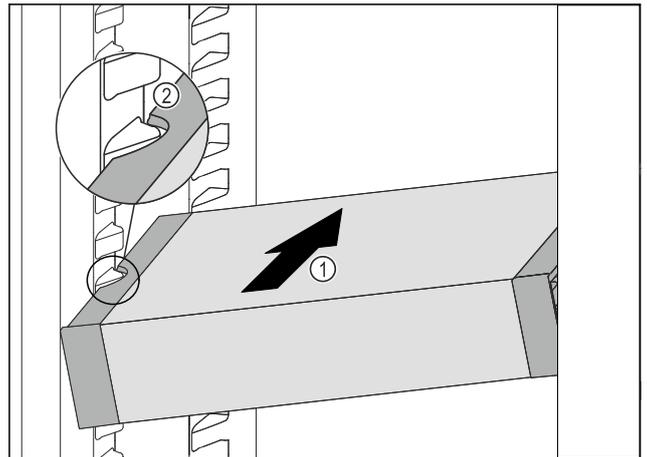

Fig. 75
- ▶ Insert the VarioSafe into the fridge section at an angle Fig. 75 (1) until the recesses in the side Fig. 75 (2) of the VarioSafe are at the level of the support rib in the fridge section.